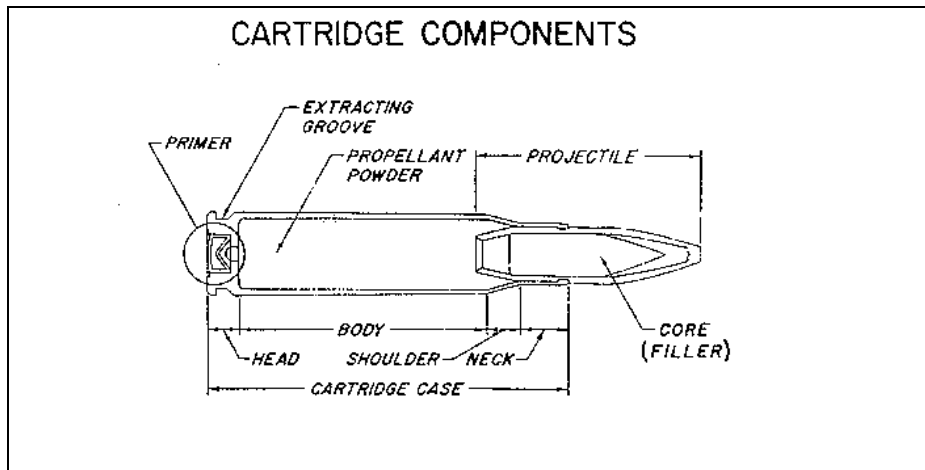

Figure 2. A typical round of small arms ammunition.
6. **Small Arms Ammunition.** Small arms ammunition consists of four basic components: projectile, propellant, primer and case (See figure 2). These components may vary in design depending on the purpose of the ammunition.